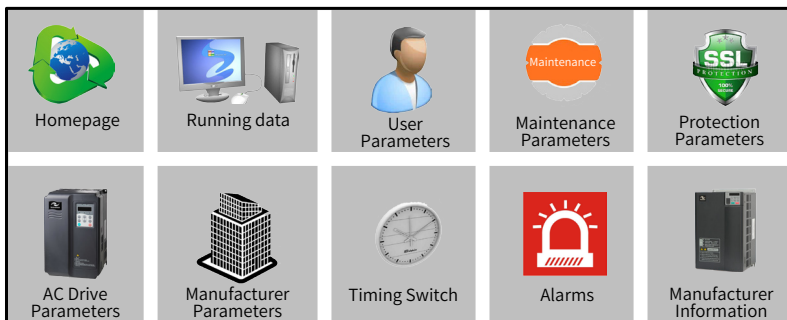

Figure 3-4 Menu (example)
- 2) Touch "Menu" in the upper right corner of the main page to access the page shown in Figure 3-4. Touch "Homepage", "Running Data", "User Parameters", "Maintenance Parameters", "Protection Parameters", "AC Drive Parameters", "Manufacturer Parameters", "Timing Switch", "Alarms", and "Manufacturer Information" in sequence to view more details.